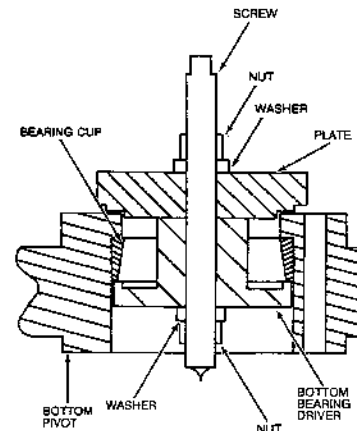

FIGURE 7.
20. Apply grease to the upper pivot pin (4).
21. Install the upper pivot pin (4) in the top pivot.
22. Lubricate the top pivot until grease is forced out of the seal (6). See Specifications in this section.
23. Rotate the upper pivot pin (4) to check the bearing assembly. The upper pivot pin (4) must rotate smoothly, but not easily. Leave the upper pivot pin (4) in place to keep dirt out of the upper pivot bearing (9).
25. Install the bearing driver and plate, refer to Figure 7.